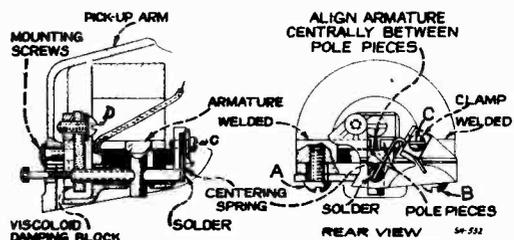
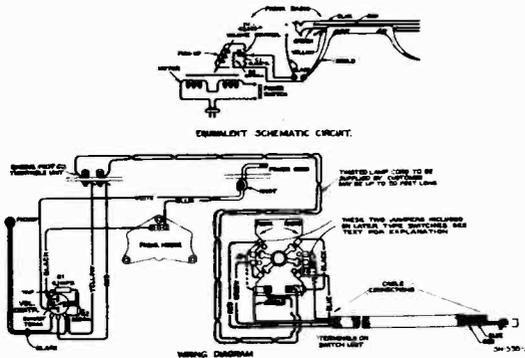

Figure 1—Details of Pickup
Figure 3—Wiring Diagram and Equivalent Schematic Circuit
2. (Record Player Switch Jumpers) — Some record player switches do not have jumpers J1 and J2 (see figure 3) attached. When the switch is so connected and turned to phonograph position, the voltage developed by the pickup is fed into the radio receiver through the green wire and shield, and at the same time the yellow wire is connected to shield. The jumpers J1 and J2 permit the yellow lead to kill radio by connection to shield. The jumpers should be removed where the yellow lead connects in such a position as to short bias batteries, etc. Check the switch to be used for the method chosen and use the jumpers accordingly. Correct jumper connections are indicated in "RCA Victor Receivers—Details of Lead Connections" of this booklet.
Refer to figure 1 showing the pickup inner structure. The armature is shown in its proper relation to the magnet pole pieces, i. e., exactly centered. Whenever this centering adjustment has been disturbed it will be necessary to remove the pickup mechanism from the tone arm by removing the needle holding screw and the two mounting screws from the front of the tone arm, holding the pickup assembly to keep it from dropping. Unsolder the two leads from the lugs on the terminal board at the rear of the pickup. Insert a small rod or nail into the armature needle hole and replace the needle holding screw, tightening it to hold the rod securely. If the armature clamping screws A and B have not been disturbed, screw or screws C should be loosened which will permit the armature to be moved from side to side, the rod acting as a lever to perform this operation. The proper adjustment is obtained when the armature is moved to the extreme position on each side (the movement being limited by
The cabinet of the Model R-93-A is similar to that of the Model R-93 Walnut finish. This model incorporates an acoustic compensated volume control, see figure 3. Model R-93-A (first production) and Model R-93-A (second production) differ only in the pickup construction, the essential difference being in the armature centering spring and spring clamps. Reference to pickup details, figures 1 and 2 will reveal the fact that the armature centering spring is respec-
tively "V" and "T" shaped for the Model R-93-A (first and second productions). Refer to "Model R-93 (third production)" and figures 1 and 2 for pickup adjustments.